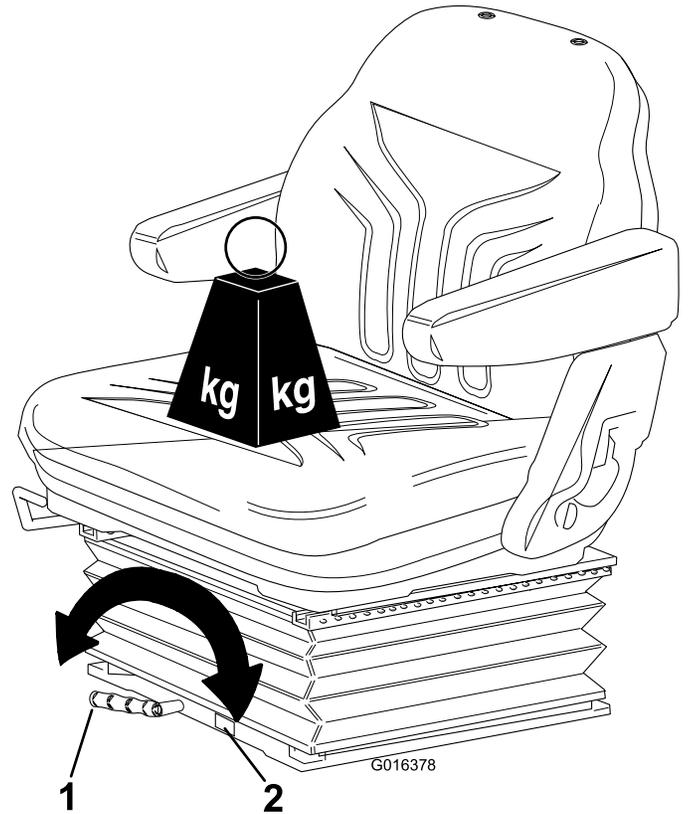

Figure 23
- **Operator weight adjustment:** Rotate the handle clockwise to increase suspension stiffness and counterclockwise to decrease the stiffness. The dial indicates when the optimum suspension adjustment has been set according to operator weight (kg); refer to Figure 23.